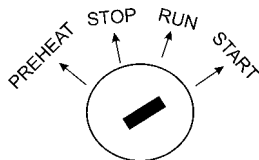

Figure 51. Engine Speed Switch (low)
8. If the generator has a starter switch, turn the key to 'START' (Figure 51) until the engine starts. Then release the key to set it at 'OPERATION' function.